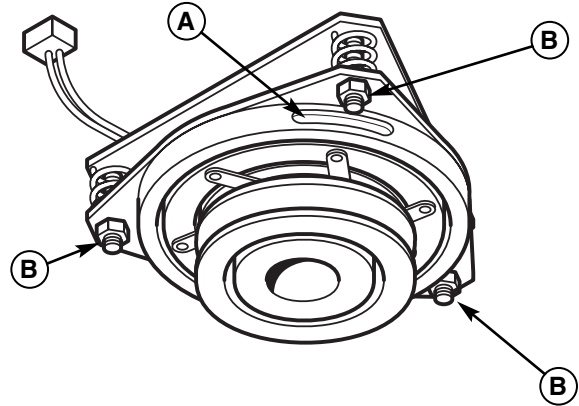

Figure 31. PTO Clutch Adjustment
2. See Figure 31. Note the position of the 3 adjustment windows (A) in the side of the brake plate and the nylock adjustment nuts (B).